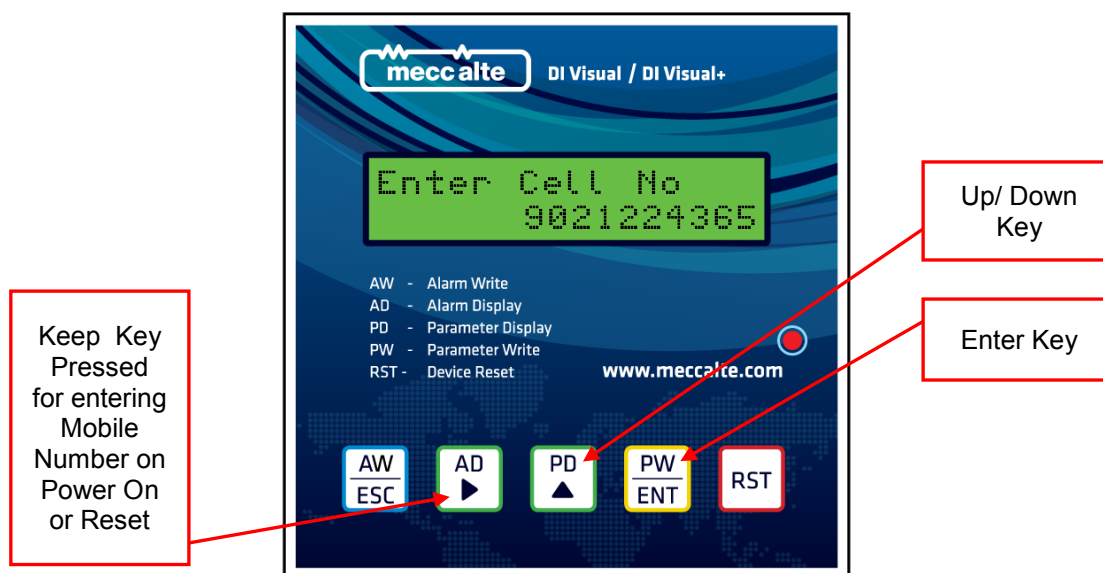

fig. 10
- 1) For storing Mobile number which will be used to send Alarms SMS, after Power On or Resetting DI-Visual+ device Press the  as shown in Fig. 10 below to prompt mobile number settings.
- 2) Use  Key to scroll in the mobile number bits and  key to change the value of Mobile No. Once you have entered desired Mobile No. Press  key as shown in Fig. 10 below to update the Mobile No. for Alarm SMS.